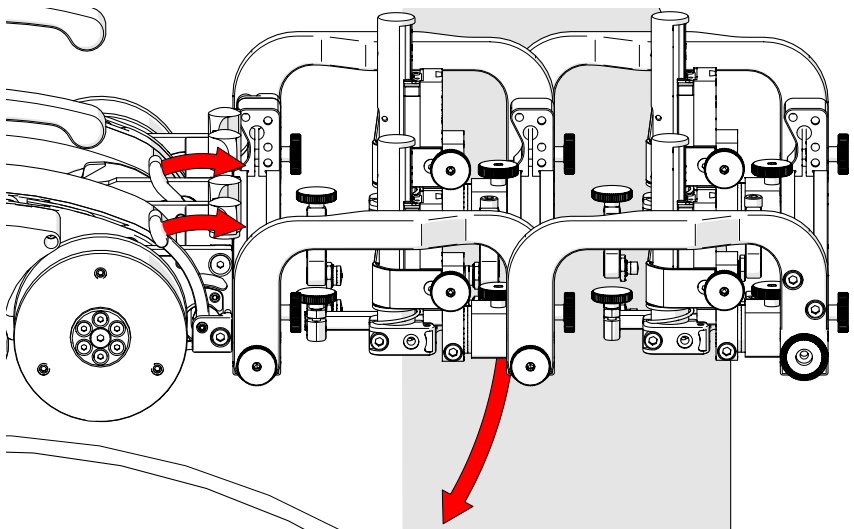
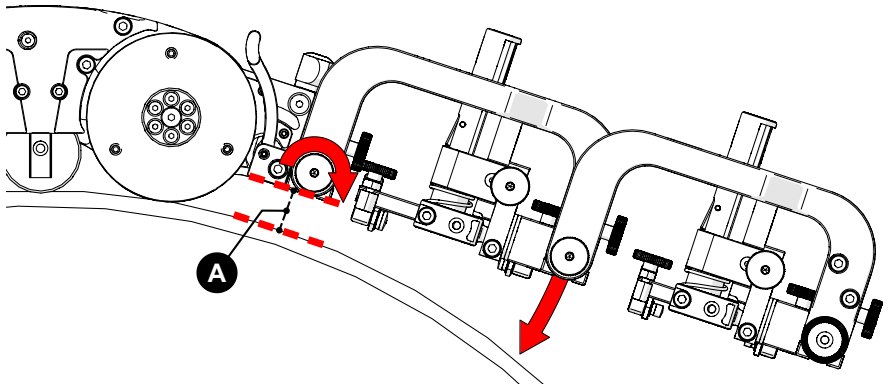
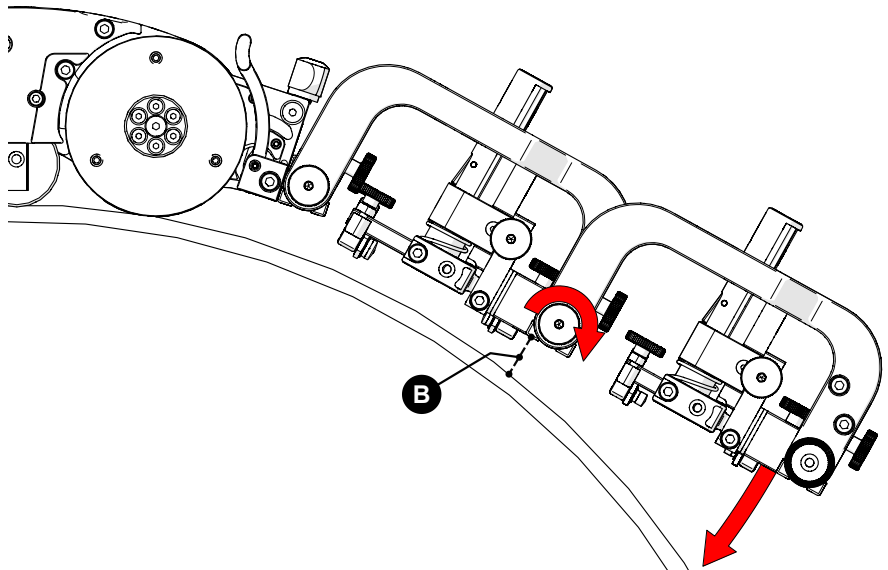
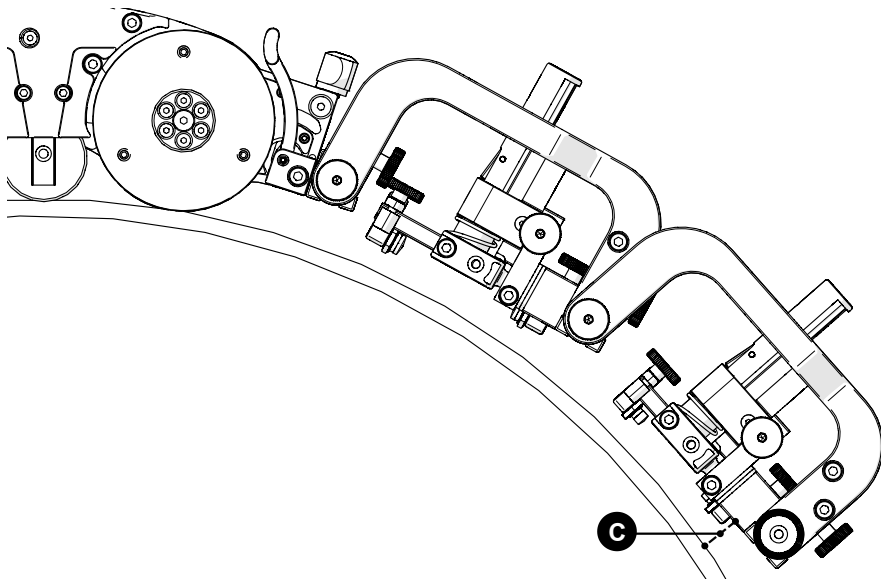

Fig. 234 - Align swivel mount with scan surface
Fig. 235 - Set rear rotational adjustment knob
Fig. 236 - Set front rotational adjustment knob
Fig. 237 - Align probes with the scan surface tangent
4. Release the two swivel mount levers (*Fig. 234*) to position the swivel mount parallel to the scan surface (*Fig. 235*). When alignment with the scan surface is achieved, lock the crawler swivel mount levers.
5. Loosen the rear rotational adjustment knob to lower the weld scan frame towards the inspection surface. Ensure gap **B** (*Fig. 236*) is no smaller than gap **A** (*Fig. 235*).
6. Loosen the front rotational adjustment knob (*Fig. 236*) to lower the weld frame towards the inspection surface while ensuring gap **C** (*Fig. 237*) is no smaller than gap **A** (*Fig. 235*).